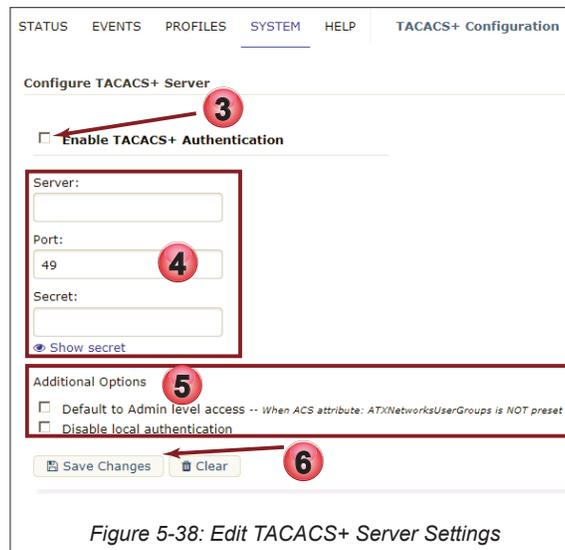

Figure 5-38: Edit TACACS+ Server Settings
3. The **Configure TACACS+ Server** page opens, see Figure 5-38. To activate TACACS+ click the tick box.